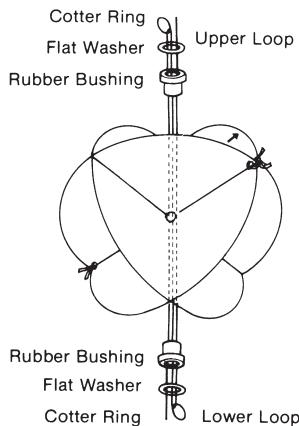

Figure 2.
1. Place assembled radar reflector on a flat surface with **arrow in top corner**, as shown in Figure 2.